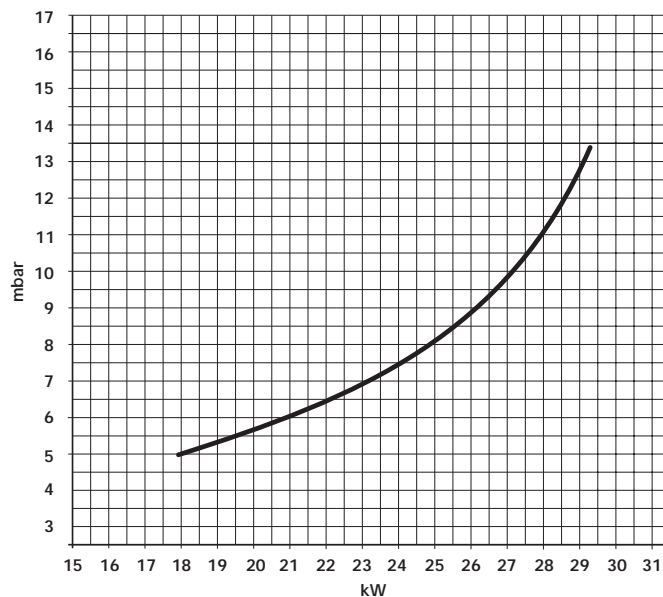
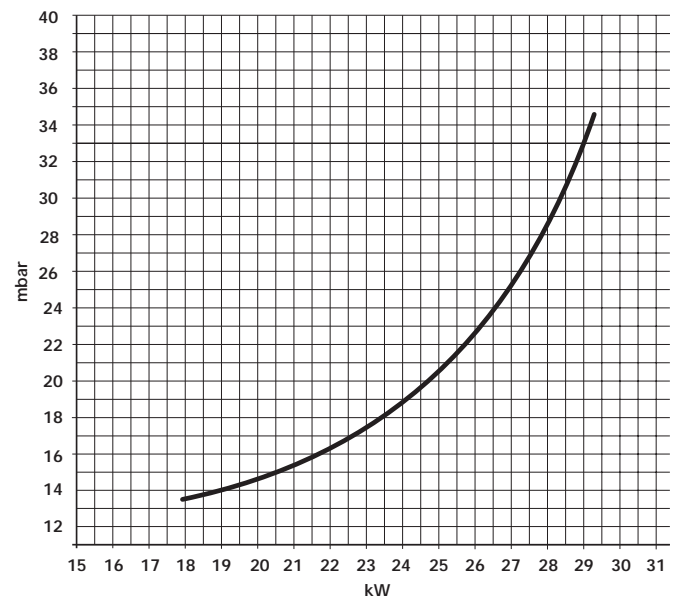

Fig. 42a
Fig. 42b
The diagrams indicate the variation in heat output to the water as burner working pressure is varied (fig. 42a and 42b).
- 7) If inlet working pressure is ok using the test point on the gas valve marked OUT check the burner pressure. Burner pressures for the required heat output can be obtained from fig. 42a for natural gas and fig. 42b for LPG.